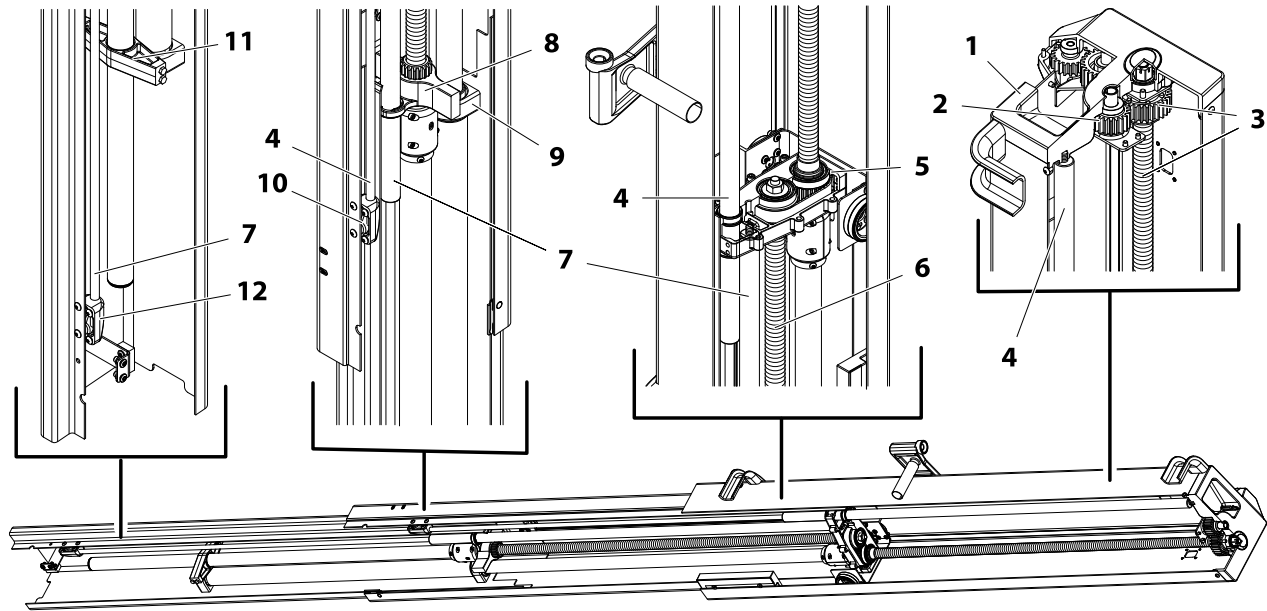

Figure 6-1. FT70 and FT140 - Mast Component Overview
- a. Slide special tool into the bottom of the mid-mast section to engage the outer to mid-mast section gas strut cylinder rod mount - *Item 10, Figure 6-1, on page 6-9*
- d. Remove the four (4) hex drive screws holding the strut mount to the mid-mast section.
- e. Once all four screws are removed, slowly unscrew the tool block releasing the remaining pressure from the gas strut, approximately one (1) to two (2) inches.
4. Next release the pressure from the mid to inner-mast section gas strut - *Item 12, Figure 6-1. on page 6-9, same as the outer to mid-mast procedure.*
- c. Remove the four (4) hex drive screws holding the strut mount to the mid-mast.
Check the nylon gas strut guides, where the gas struts pass through the gear box (item 5 - Figure 6-1. on page 6-9) and the drive screw attach bracket (item 8 - Figure 6-1. on page 6-9) for excessive wear or breakage. Replace if necessary.